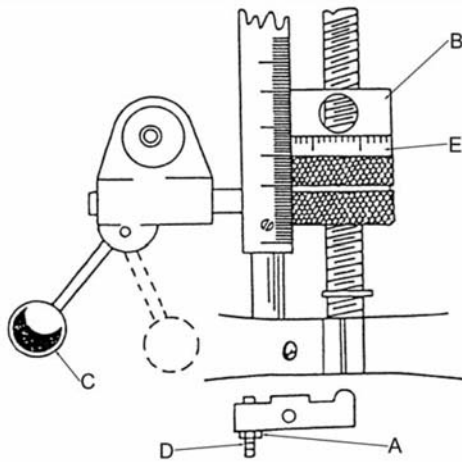

Figure 14: Feed trip adjustment
Refer to Figure 14.
1. Loosen lock nut (A, Figure 14).
2. Engage trip handle (C) by pulling away from head assembly.
3. Adjust micro nuts (E) against quill stop (B).
4. Slowly turn adjusting screw (D) until lever (C) trips.
5. Tighten lock nut (A).